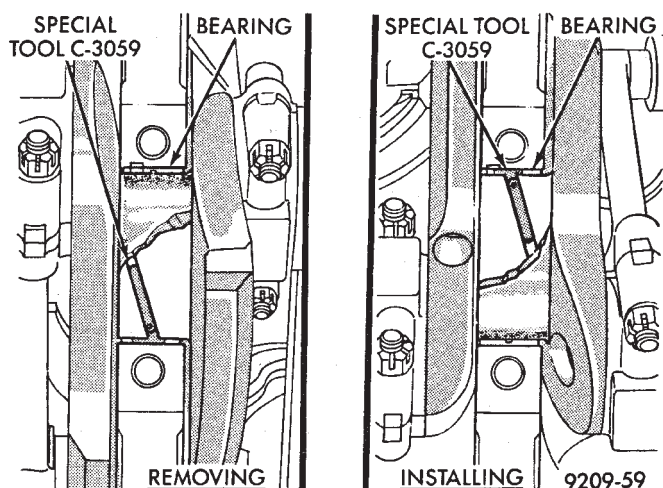

Fig. 49 Upper Main Bearing Removal and Installation with Tool C-3059
(1) Remove the oil pan and oil pump pick-up tube.
(2) Identify bearing caps before removal. Remove bearing caps one at a time.
(3) Remove upper half of bearing by inserting Crankshaft Main Bearing Remover/Installer Tool C-3059 into the oil hole of crankshaft (Fig. 49).
(4) Slowly rotate crankshaft clockwise, forcing out upper half of bearing shell.
(1) Start bearing in place, and insert Crankshaft Main Bearing Remover/Installer Tool C-3059 into oil hole of crankshaft (Fig. 49).
(2) Slowly rotate crankshaft counterclockwise sliding the bearing into position. Remove Tool C-3059.
(3) Lubricate the main journals with clean engine oil. Install main bearing caps and bolts. Follow the 2 step tightening sequence.
(4) Apply a rearward axial load of 667 N (150 lbs-f) on crankshaft centerline, driving No.3 main cap and thrust bearing against No.3 bulkhead. Repeat procedure, driving crankshaft forward to align rear flange of thrust bearings in a common plane. Front face of No.1 main cap must not extend forward in front of face of No.1 bulkhead.
(5) Install the oil pump pick-up tube and oil pan.